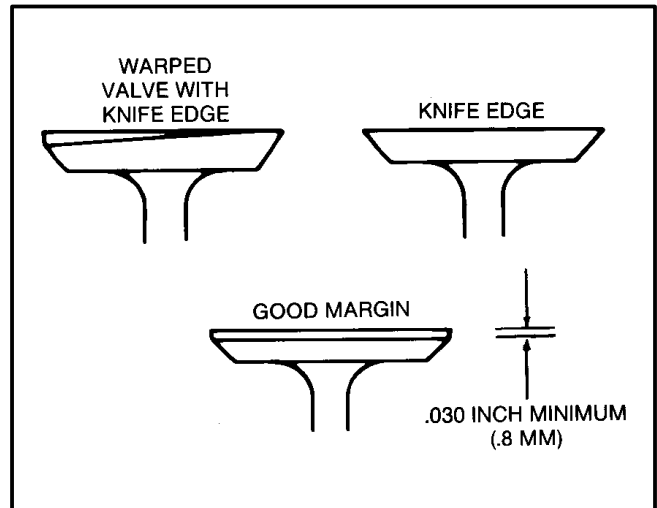

FIGURE 10-8. VALVE HEAD MARGIN
2. When the valve head is warped, a knife edge will be ground (see Figure 10-8) on part or all of the head due to the large amount of metal that must be removed to completely reface the valve. Heavy valve heads are required for strength and good heat dissipation. Knife edges lead to breakage, burning, and pre-ignition due to heat localizing on the edge.
4. Replace any valve that cannot be entirely refaced while keeping a good valve margin (see Figure 10-8) or is warped, worn, or damaged in any way. The amount of grinding necessary to true a valve indicates whether the valve head is worn or warped.